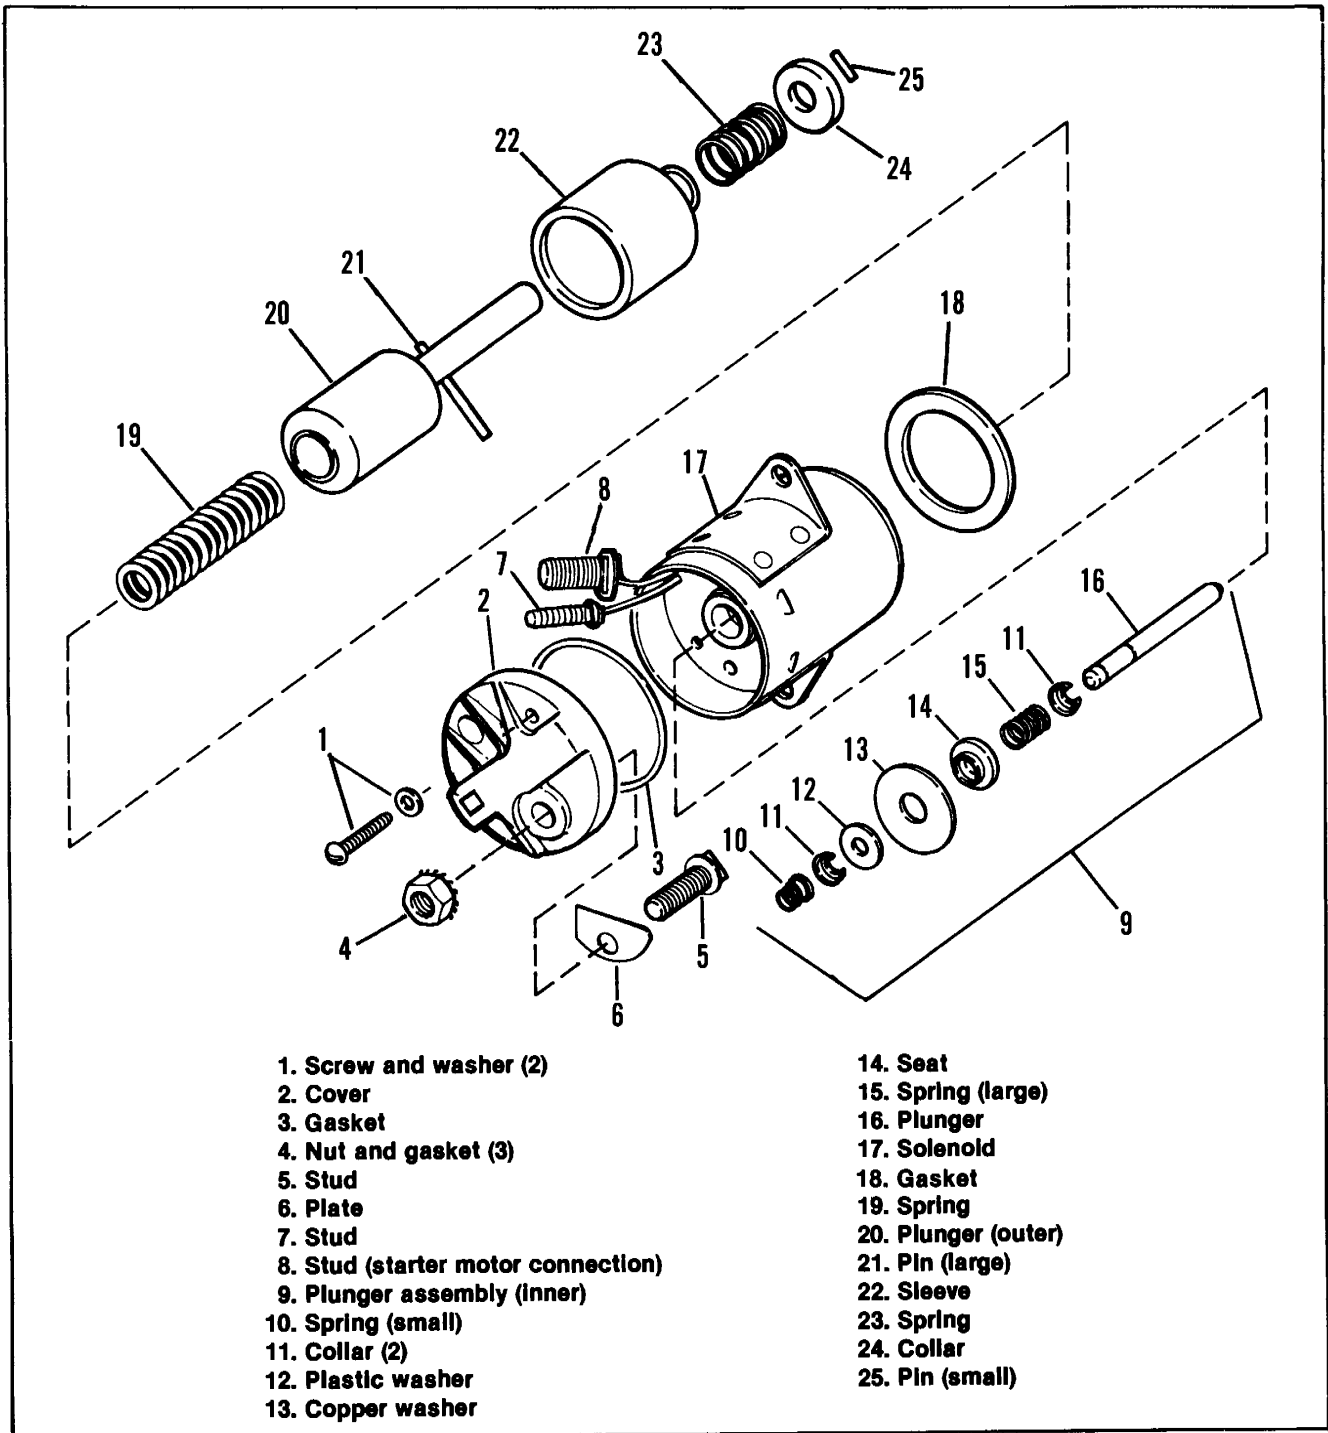

Figure 5-16. Solenoid — Exploded View
- Remove the mounting bolts and lockwashers. Remove the solenoid along with the spring and gasket (18 and 19, Figure 5-16).
DISASSEMBLY (Figure 5-16)
CLEANING, INSPECTION AND REPAIR (Figure 5-16)
ASSEMBLY (Figure 5-16)
3. Install the gasket and spring (18 and 19, Figure 5-16) and solenoid. Secure the solenoid using the original lockwashers and bolts.